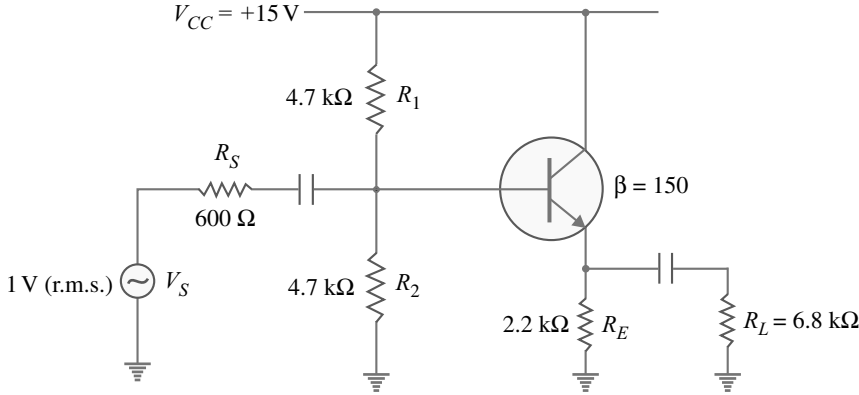

Fig. 11.34
**Example 11.29.** For the emitter follower circuit shown in Fig. 11.34, find (i) voltage gain (ii) input impedance and (iii) a.c. load voltage. The transistor used has  $\beta = 150$ .